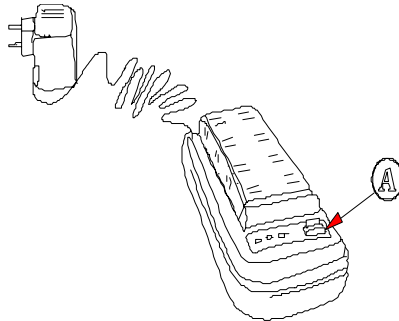

Figure 1.- CB-410B battery charger and mains adapter.
- 2) **You are advised to discharge the battery before beginning the charging process** to eliminate any possible residual charges. Press button A located on the right (see figure 1). A small yellow light will light up and discharging begins. When the discharging process is terminated, the charger automatically begins the charging process.